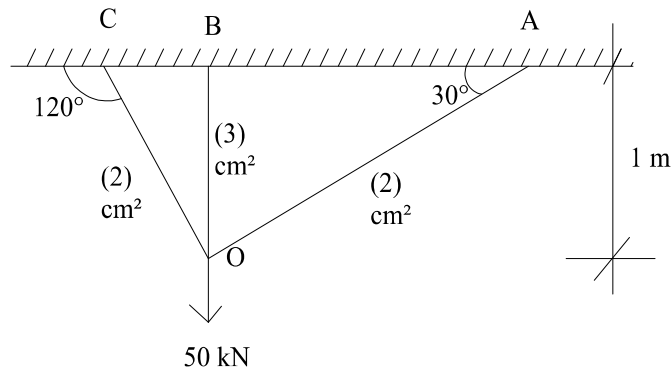

Fig.1
1. Determine the forces in the members of the truss shown in Fig.1 by matrix stiffness method. Take  $E = 200\text{GPa}$ .